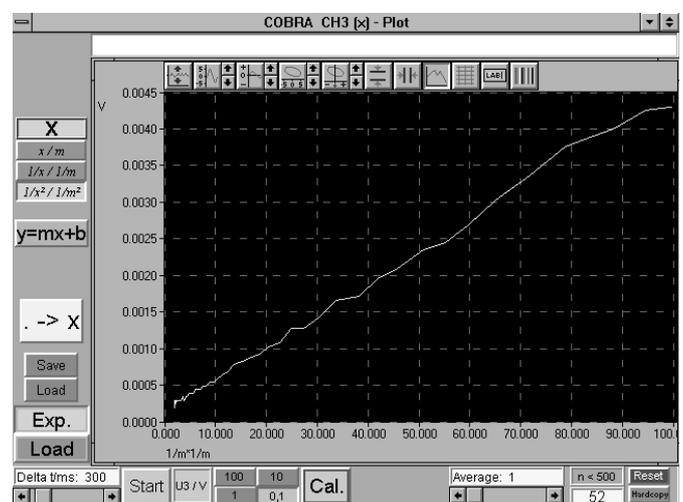

Fig. 6: Illumination intensity as a function of the square of the inverse value of distance.
- Only the plot of illumination intensity as a function of the square of the inverse of the distance \langle 1/x² / 1/m² \rangle gives a straight line (Fig. 6). This can be confirmed by a regression line \langle y=mx+b \rangle . The law of distances is thus verified.